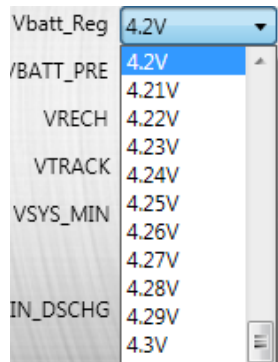

Figure 11: Charge-Full Voltage Setting
9. Set the charge-full voltage (see Figure 11). The charge-full voltage ranges between 3.4V and 4.67V, and the default value is 4.2V.